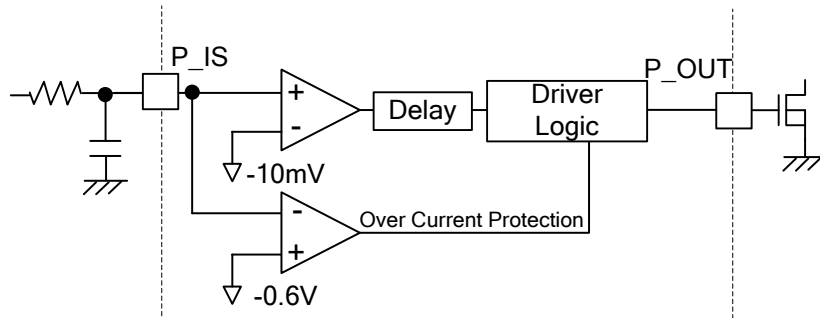
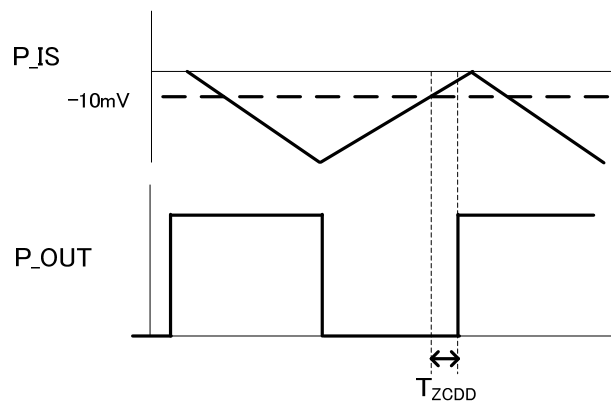

Figure 31. Current Detection Circuit of P\_IS Terminal
Figure 32. P\_IS Zero Current Detection Delay Time
Zero current detection circuit is the function that detects zero cross of PFC inductor current (IL). (Shown in Figure32) The voltage of P\_IS pin becomes more than the voltage of zero current detection and P\_OUT output turn ON after it is passes for Delay time.
The maximum ON width which set in Figure 31 needs to set more than TMAXON width which shows above. In order to improve the efficiency in a light load, the frequency rising in a light load is limited to set value at P\_RT pin, by the maximum frequency of Figure 32.